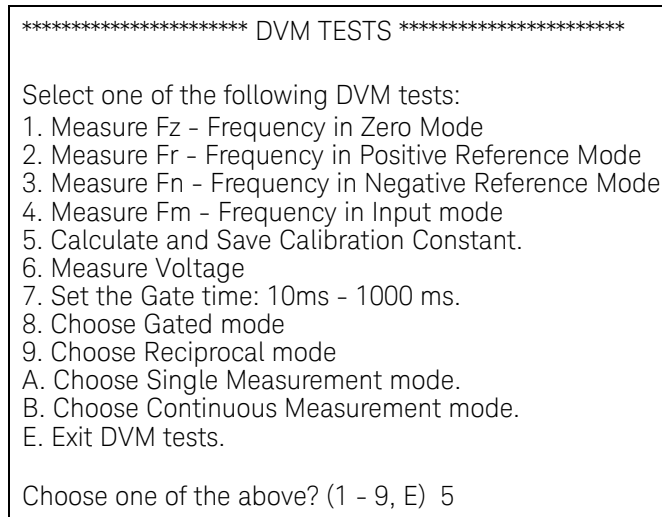

Figure 2-8 DVM Tests Main Menu
- 8 Press "**5**" on the computer to choose option 5 from the **DMM Tests** menu (see Figure 2-8).
- 15** When the calibration program redisplay its menu (as shown in Figure 2-8), type “e” to exit the program.